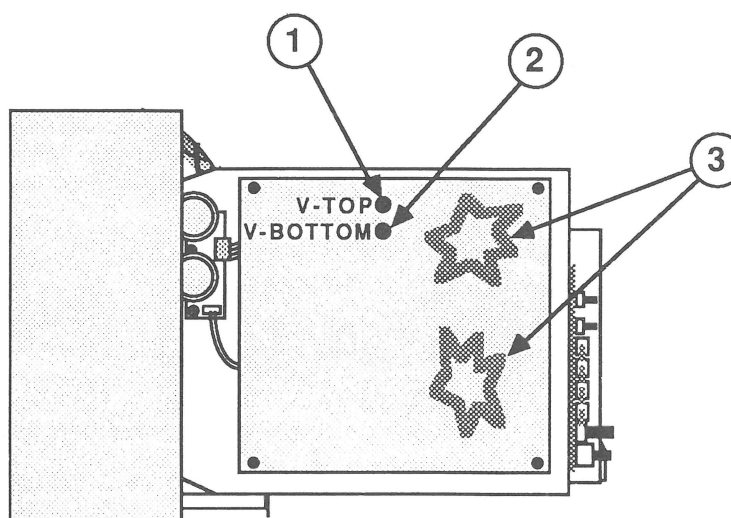

FIGURE 14
WARNING: In addition to following the standard safety precautions outlined in Section 1, Basics, take care to avoid high voltage areas on the solder side of main logic board "D." In particular, avoid the very high voltage areas outlined above in Figure 14, #3.
10. If the horizontal lines at the top of the monitor are out of adjustment, turn the V-TOP (RV518) control (Figure 14, #1) until the color-shadowed lines blend to solid white lines.
11. If the horizontal lines at the bottom of the monitor are out of adjustment, turn the V-BOTTOM (RV517) control (Figure 14, #2) until the color-shadowed lines blend to solid white lines.